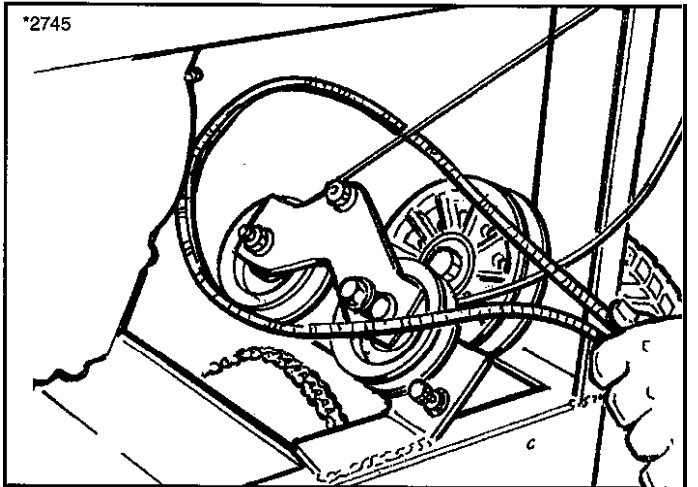

Figure 41. Insert Loop Over Idler Pulley Assembly
4. Inspect the belt for excessive wear, and replace if worn out or cracked. Make a loop with the new belt, and insert it into the rear of the unit, over the pivoting idler pulley assembly and toward the horizontal transmission pulley (Figure 41).